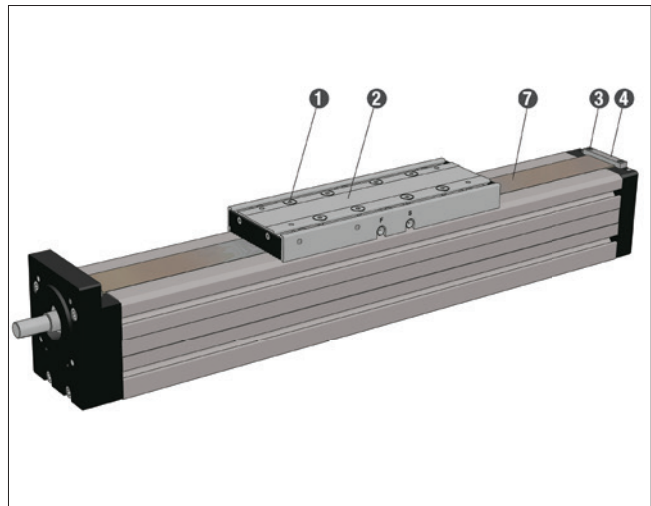

Figure 4.13 \_\_ Cover strip replacement
For the replacement of the cover strip for Linear Axis of the series AXC, the following steps in accordance to Figures 4.13 up to 4.17 must be observed:
1. Disassemble the screws **1** and remove the slider plate **2** (Figure 4.13) (omitted for AXC100).